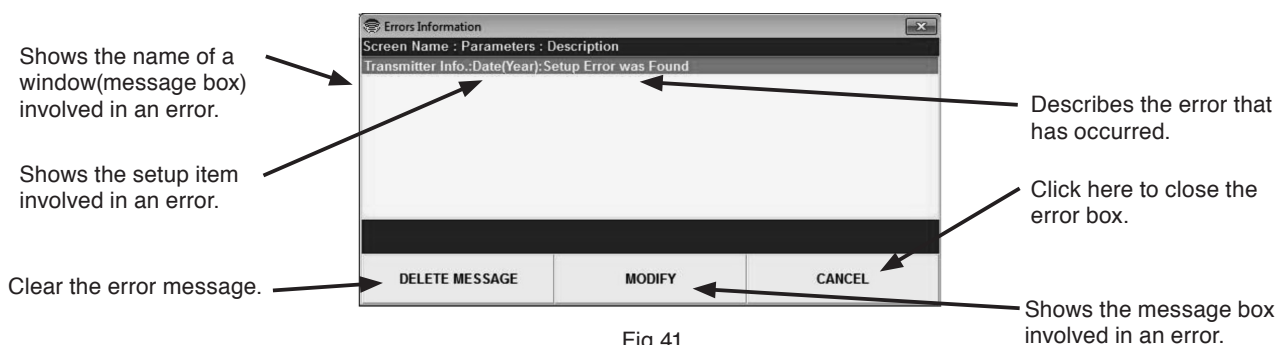

Fig.41
- ② A little later, an error box "Communication error" as shown in Fig. 41 appears.